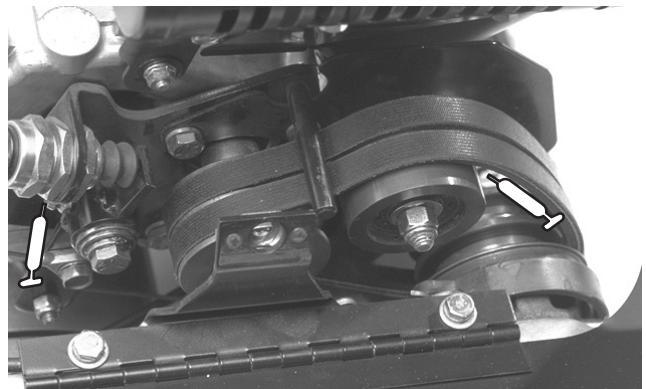

Figure 27
- 2 on the belt idler pivots (Fig. 27).